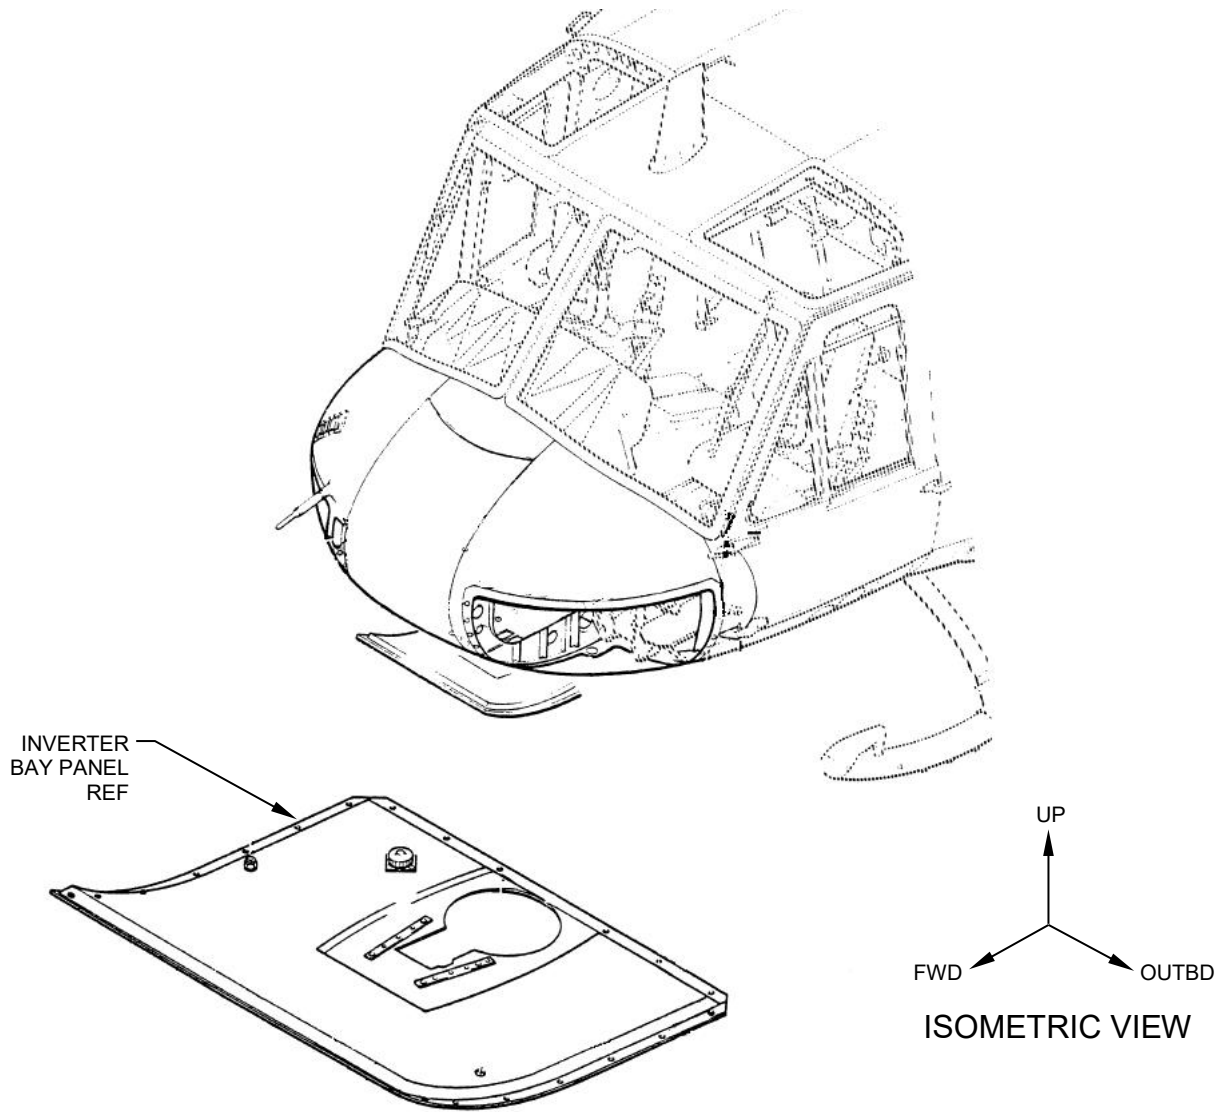

Figure 1
1. Gain access to the inverter bay panel on the underside of the aircraft nose. Reference Figure 1.
2. Remove the inverter bay panel. Reference Figure 1.